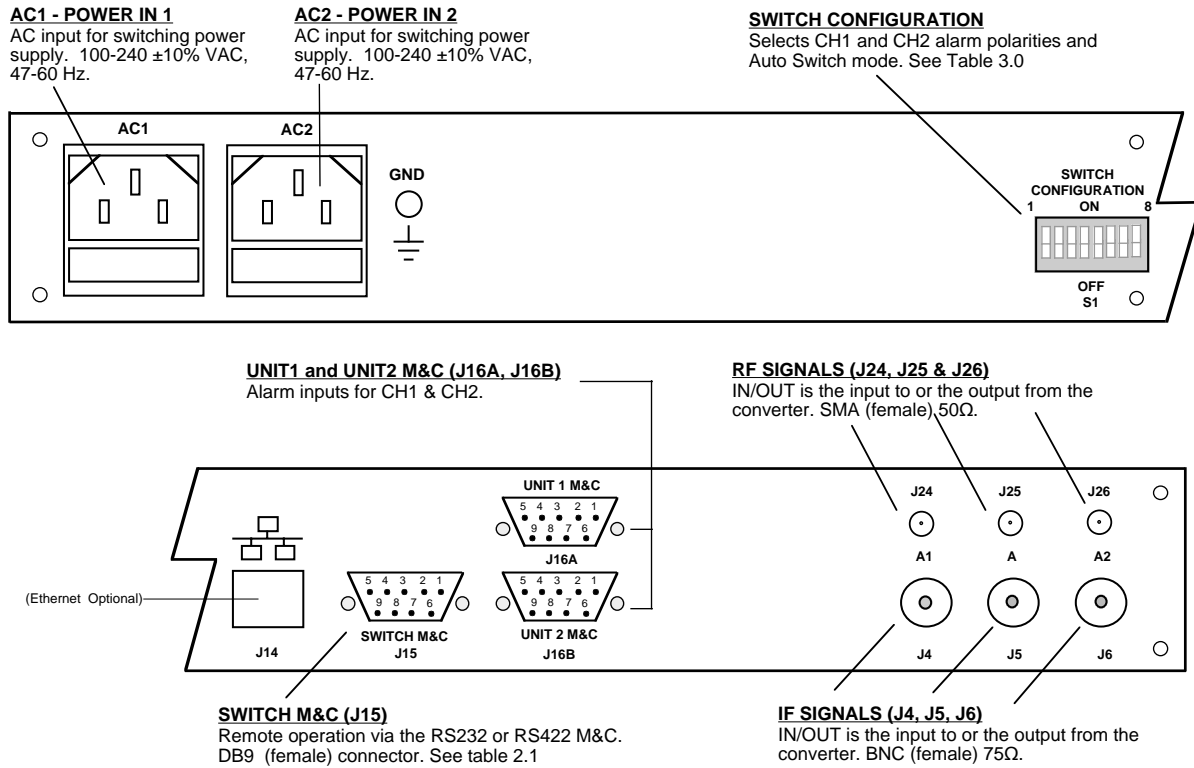

FIGURE 2.2 1582-1152 IF-L/RF Switch Rear Panel Inputs/Outputs
Figure 2.2 shows the input and output connectors on the rear panel.
4. Connect to signals on the MONITORS AND CONTROLS connectors, J16A & J16B, as desired (see Figure 2.2, Table 2.1).